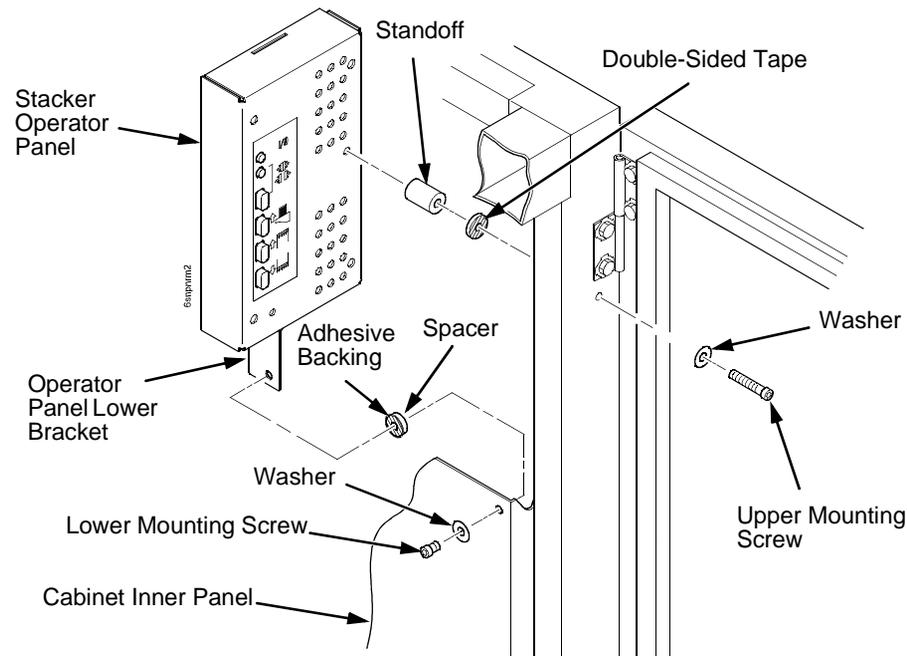

Figure 93. Install the Stacker Operator Panel in the Rear of the Cabinet
23. Apply the double-sided tape to one end of the operator panel standoff. Remove the paper backing and hold the standoff inside the cabinet while you insert the upper mounting screw and washer through the hole in the frame. Use the screw as a guide to align the standoff with the hole, then press the standoff against the inside wall and push the upper screw in as far as it will go. Now maneuver the operator panel into position and install the upper mounting screw finger tight in the operator panel. (Figure 93.)
- 1) Peel the backing off the spacer adhesive. (Figure 93.)
- 2) Align the spacer with the holes in the lower bracket and inner panel. (Figure 93.)
- 3) Press the spacer adhesive against the inner panel. (Figure 93.)
25. Install the lower mounting screw and washer. Tighten the upper mounting screw. (Figure 93.)